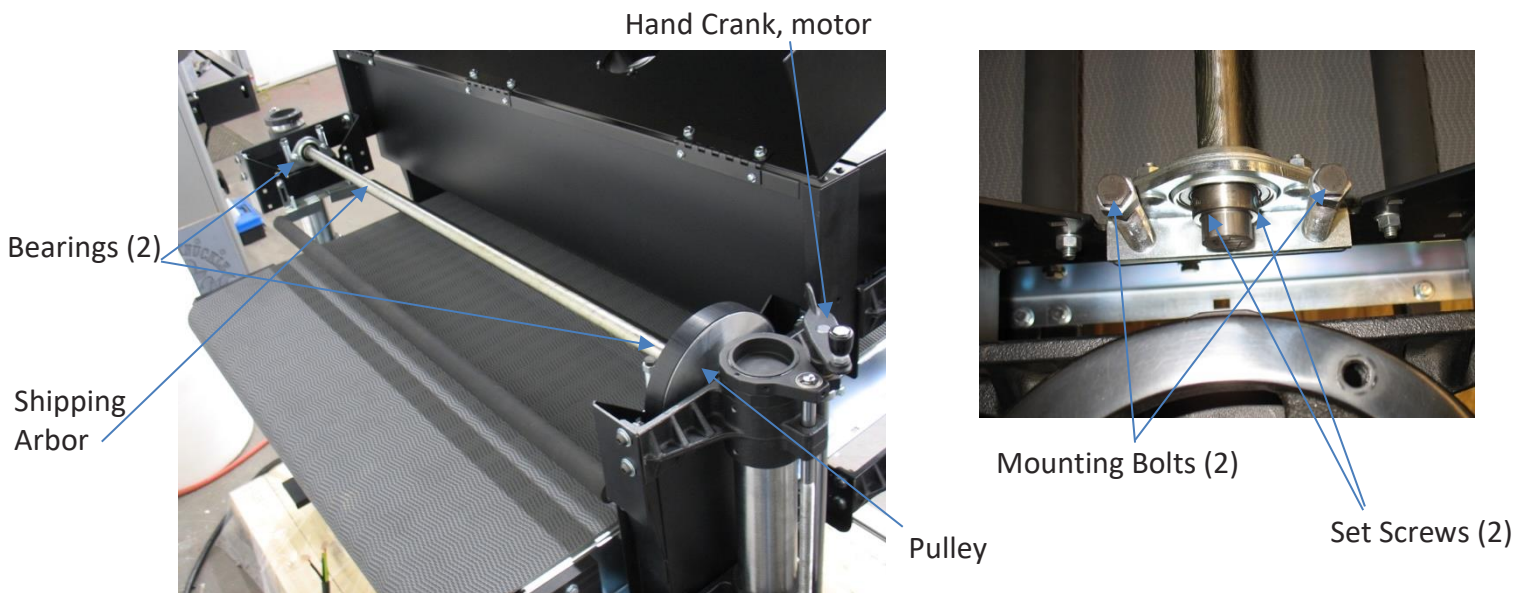

Figure 7A & B: Shipping Arbor and Bearings
- D. Slide the pulley, Fig. 7A (from Shipping Arbor) onto the drive shaft over the key.
- E. Raise the main motor by using the hand crank, Fig. 7A, at the top of the column to lift the motor.